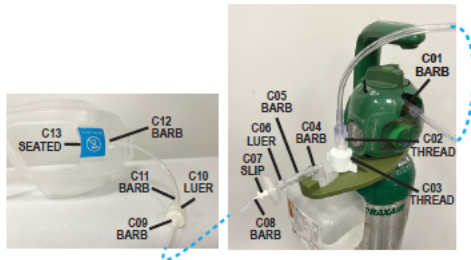

Figure 6: Tubing Connections
4. Disconnect Boost Goggle tubing from filter (C07) in Figure 6. If humidifier whistle alarm is still present, then replace with new goggles and tubing.